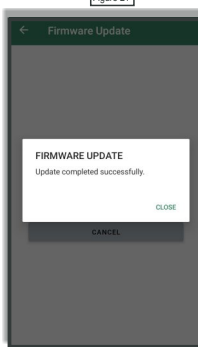

Figure 24
Step 4: At the end of the update, the message in Figure 24 will be displayed and the converter will restart immediately, turning on the **POWER LED** in **white**. The **STATUS LED** will turn **white** and then **yellow**, indicating that the firmware is being update.